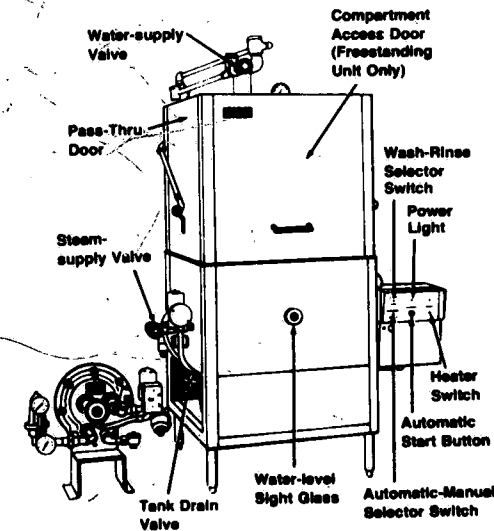

Figure 3-1. PERFORMANCE VERIFICATION AND MAINTENANCE (Freestanding Unit Shown).
3-2. PERFORMANCE VERIFICATION (Fig. 3-1)
3.3 PREVENTIVE MAINTENANCE (Fig. 3-1)